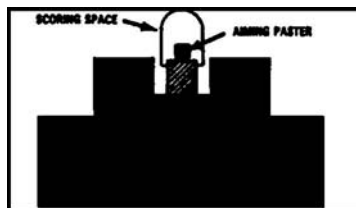

Figure 2. Sight picture.
- b. Obtain a sight picture by centering the target over the front sight blade so that it appears to rest on top of the front sight blade and on top of the rear sight slide (Figure 2).